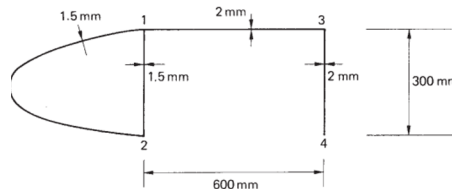

Figure 5
- (b) Find the angle of twist per unit length in the wing whose cross-section is shown in Figure 5, when it is subjected to a torque of 10 kNm. Find also the maximum shear stress in the section. $G = 25\,000 \text{ N/mm}^2$. Wall 12 (outer) = 900 mm. Nose cell area = $20\,000 \text{ mm}^2$. Note: Assume that the torsional rigidity GJ of the complete section is the sum of the torsional rigidities of the open and closed portions. [7M]